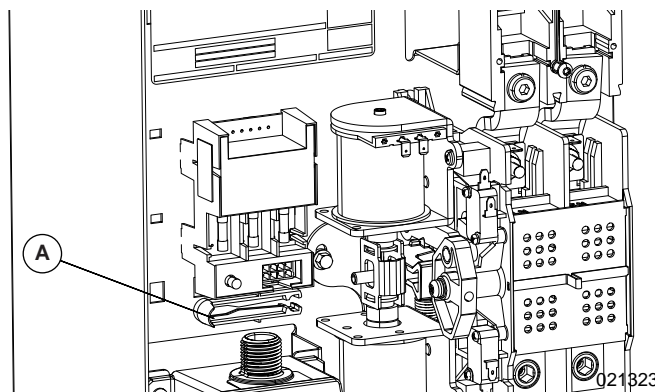

Figure 4-4. Fuse Removal and Installation Tool
See Figure 4-4. A fuse removal and installation tool (A) is included in the FCM housing.